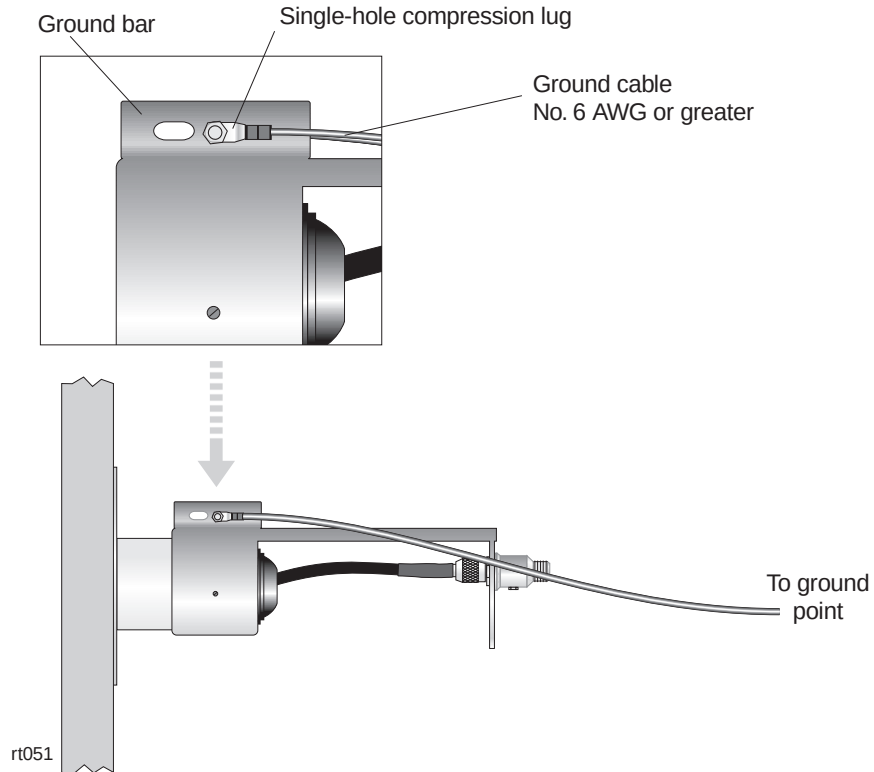

Figure 4-10 Remote lightning arrestor grounding connections
1. Connect one end of the ground cable (No. 6 AWG or greater, green) to the lightning arrestor ground bar, as shown in figure 4-10.